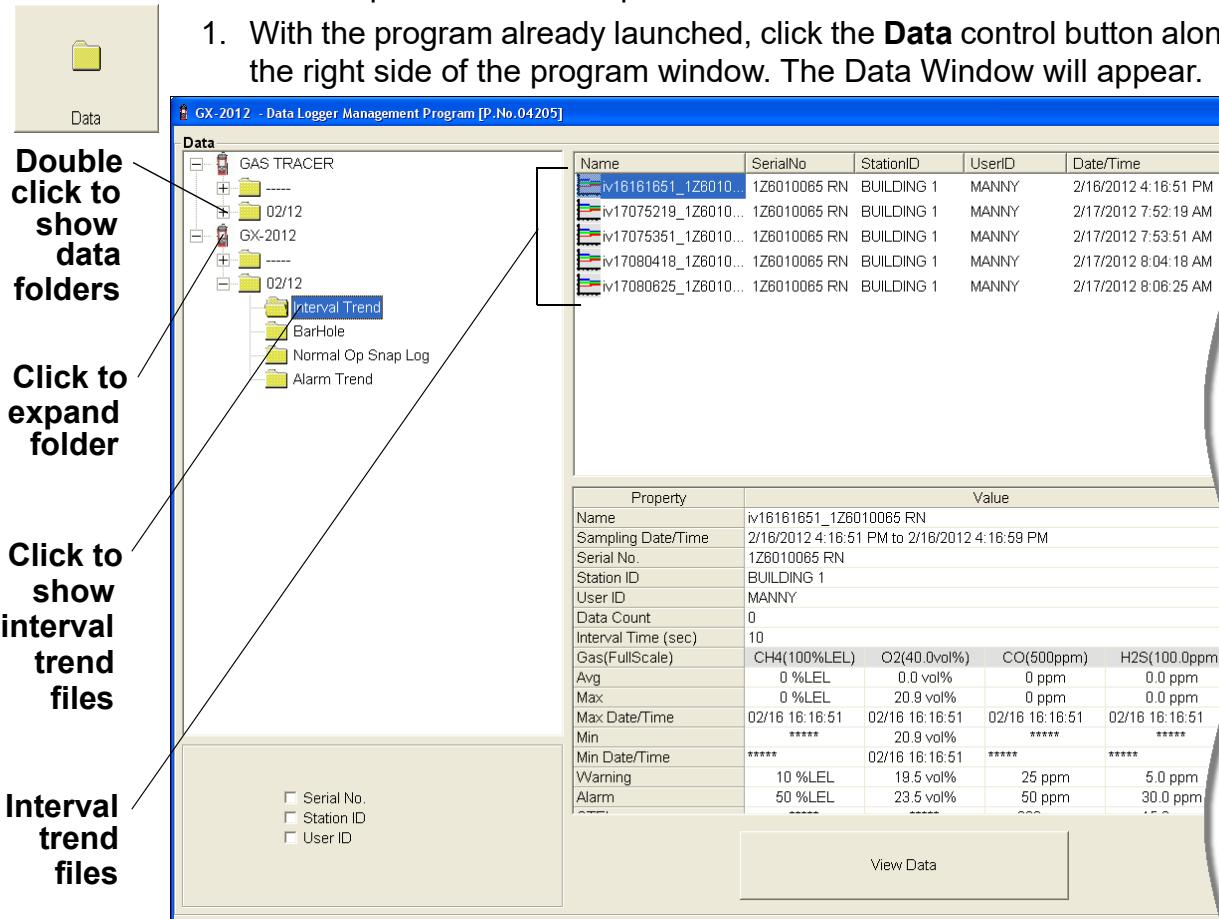

Figure 44: Data Window - Selecting Interval Trend Data Files
- If you click the **Summary** button, the Data Window will split into two frames, one above the other, with the data table in the lower frame and the summary information shown in the upper frame. The summary information is the same as the one shown in the lower right frame in Figure 44. To return to the one frame format, click **Summary** again.
NOTE: The data count shown when you have selected an interval trend data file, as in Figure 44 above, can be more than five if you have events, such as the instrument going into and out of alarm, but you may not have five scheduled data points.
- If you click the **Summary** button, the data window will split into two frames, one above the other, with the graph in the lower frame and the summary information shown in the upper frame. The summary information is the same as the information shown in the lower right frame in Figure 44. To return to the one frame format, click **Summary** again.